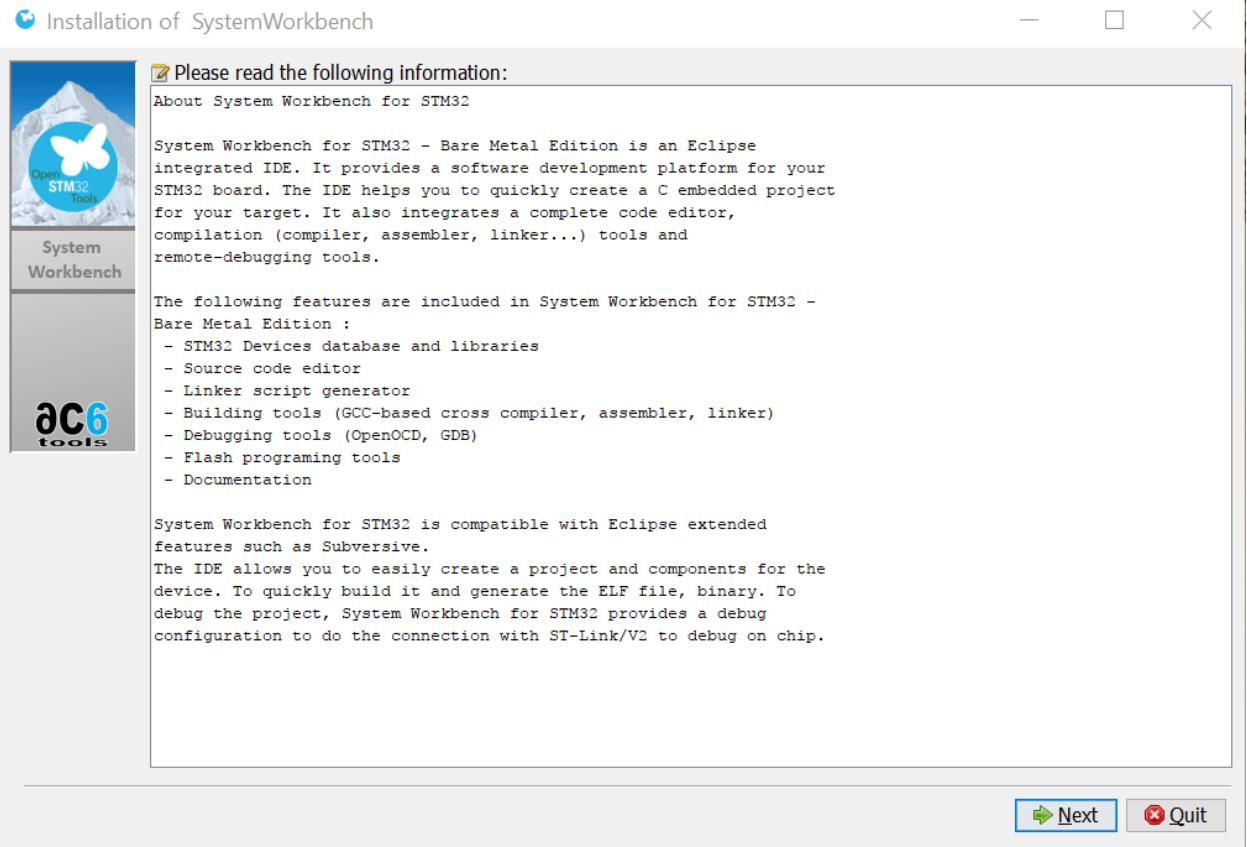

Figure 3: GUI installation interface of System WorkBench
4. Wait for a few seconds, you will see a GUI installation interface popup as Figure 3.